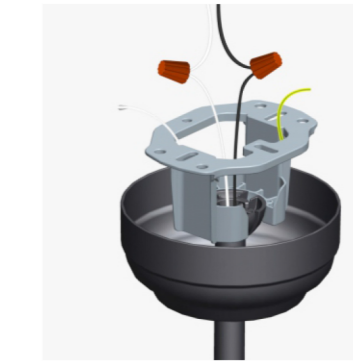

Fig 5.2
5.2 Fasten the safety rope to a safe place. Connect the fan motor White wire to the supply White (Neutral) wire using a wire nut, connect the fan motor Black wire to the supply Black (Hot/Live) wire using a wire nut. The Yellow/Green wire is ground wire and needs to be connected accordingly. (Make sure all the wires are connected to the correct colors as shown in Fig 5.2.)